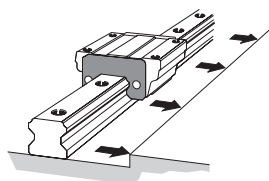

Fig.3 Aligning the LM Rail with the Reference-Surface
- (2) Gently place the LM rail onto the base, and temporarily secure the bolts to the extent that the LM rail lightly contacts the mounting surface (align the line-marked side of the LM rail with the side reference-surface of the base). (Fig.3)